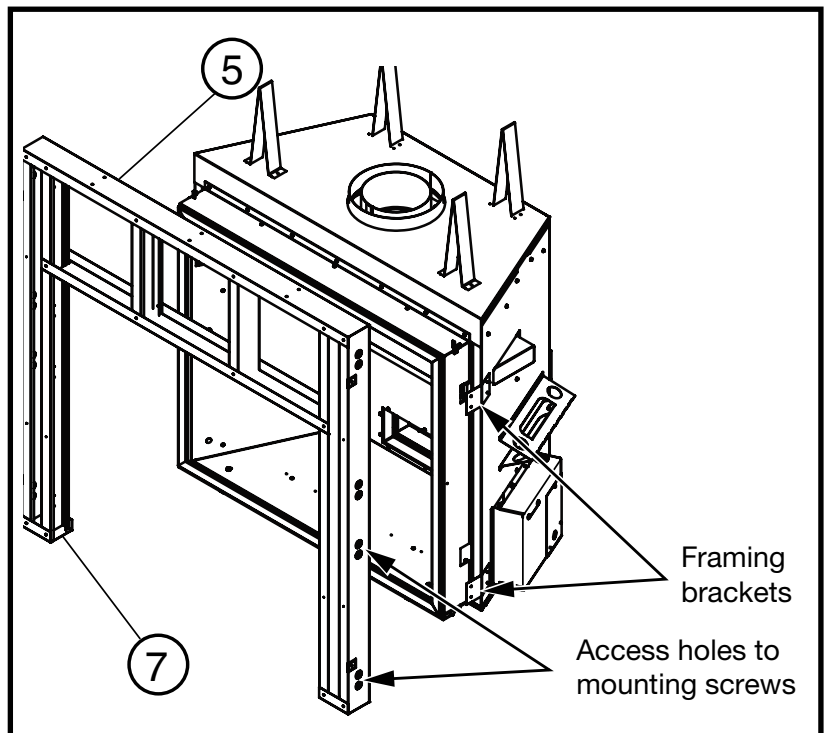

Figure 21: Framing brackets.
- Align the assembled frame to the unit framing brackets (Figure 21). Set the depth of the framing Kit based on the depth to the edge of the Lintel needed for the final facing materials.